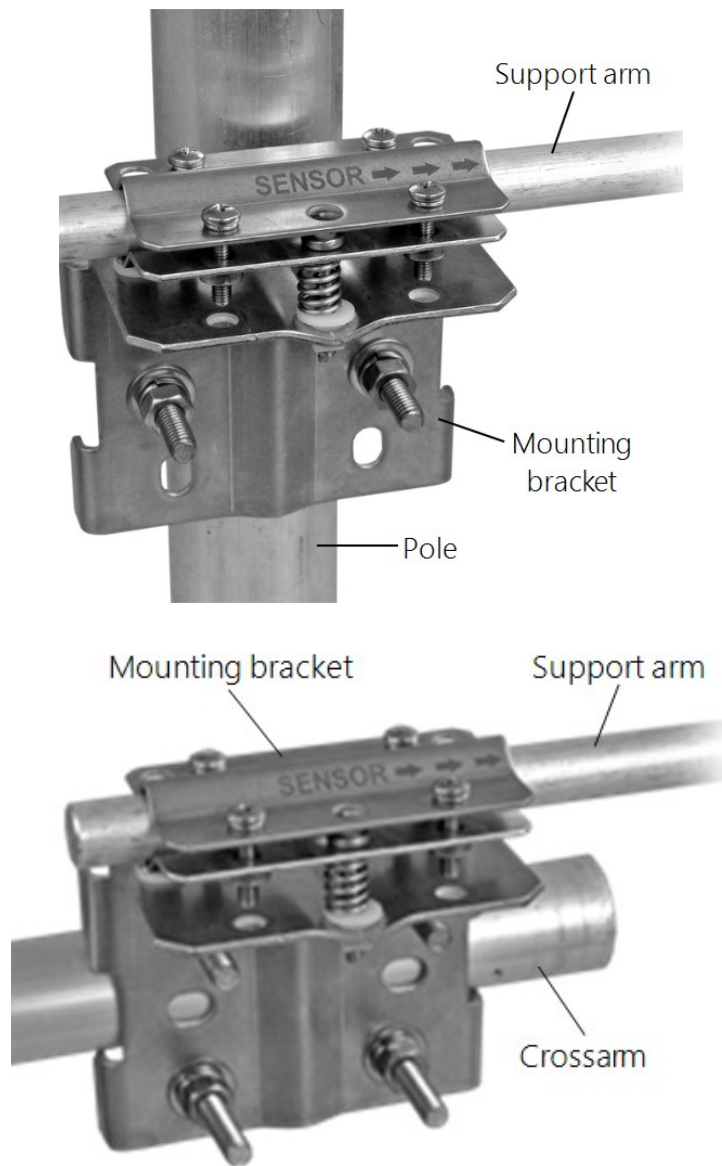

FIGURE 7-2. Mounting the NR-LITE2 onto a pole (top) and crossarm (bottom) via the Net Radiation Sensor Mounting Kit
2. Attach the mounting bracket to the vertical mounting pipe, or CM200-series crossarm using the provided U-bolt (see FIGURE 7-2 (p. 9)).
3. Insert the sensor support arm into the mounting block of the mounting bracket kit. Make sure the sensor points in the direction of the arrows that appear after the word **SENSOR** on top of the bracket (see FIGURE 7-2 (p. 9)).
5. Tighten the four screws on top of the mounting bracket to properly secure the support arm so that it does not rotate (see FIGURE 7-2 (p. 9)).
6. Perform the fine leveling using the two spring-loaded leveling screws—one on the front and the other on the back of the bracket (FIGURE 7-2 (p. 9)).